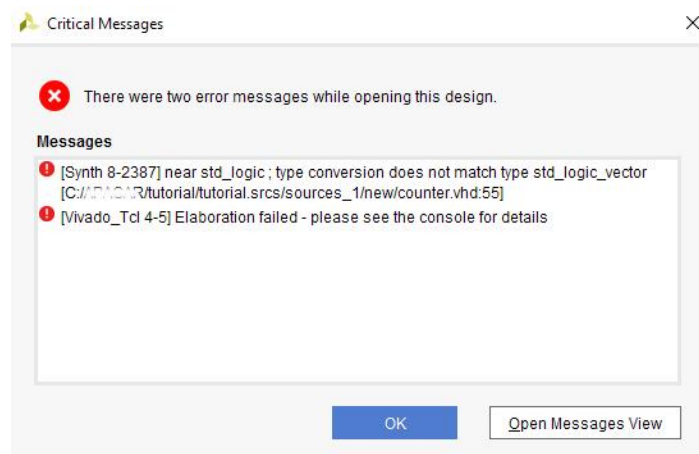

Figure 13
7. If there is a syntax error in our RTL, the parsing fails, and we get error messages telling us what is wrong (Figure 13)